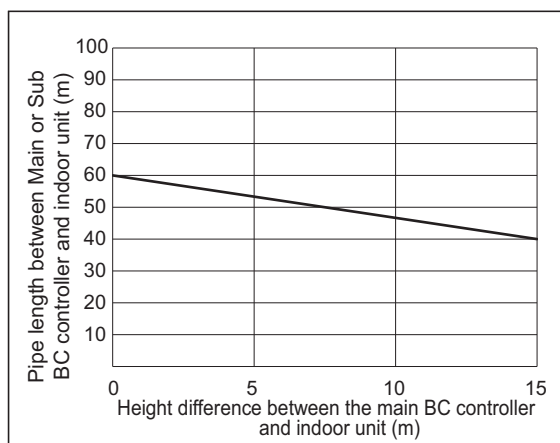

Fig. 2
*2. Details refer to Fig. 2.
*9. When the piping length or the vertical separation exceeds the limit specified in Fig. 2, connect a sub BC to the system. The restriction for a system with a sub BC connection is shown in Fig. 3. When a given system configuration falls within the shaded area in Fig. 3, increase the size of the high-pressure pipe and the liquid pipe between the main BC and sub BC by one size. The maximum liquid branch pipe diameter is ø19.05. If a given system already has a ø19.05-pipe between the main BC and sub BC, there is no need to increase the pipe size. When using M32, M40, M50, M100, or M125 model of indoor units, increase the size of the liquid branch pipe between the sub BC and indoor unit by one size. When using indoor models M140 or larger, the restrictions shown in Fig. 2 cannot be exceeded.
*9. When the piping length or the vertical separation exceeds the limit specified in Fig. 2, connect a sub BC to the system.
When using indoor models M140 or larger, the restrictions shown in Fig. 2 cannot be exceeded.